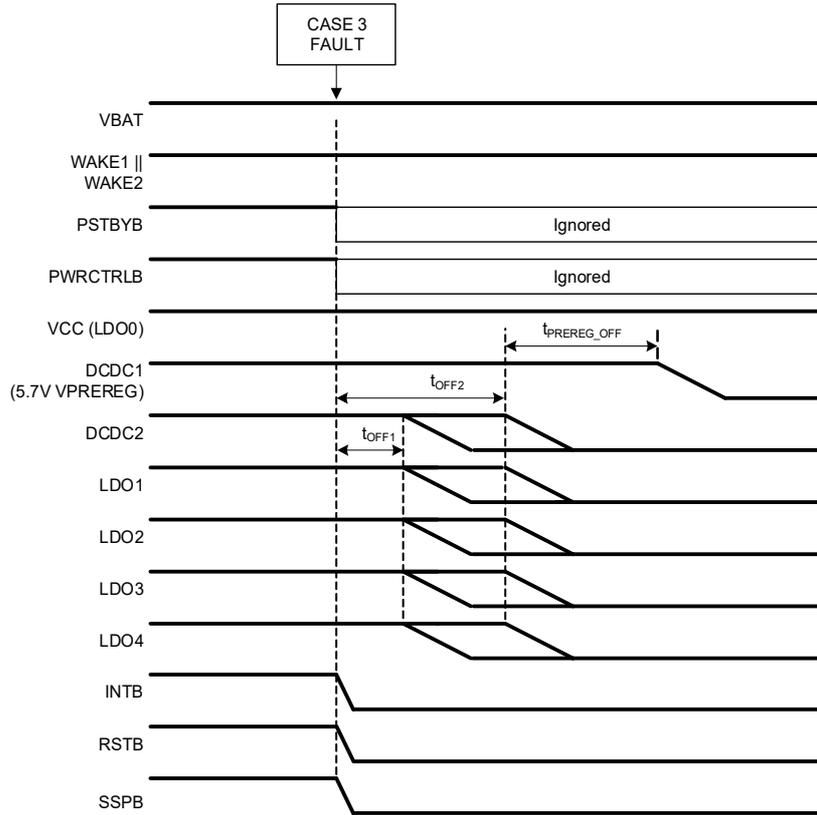

Figure 31. Case 3 Fault Timing
- Case 3 – Most severe fault reaction requiring PMIC shutdown. PMIC can only be be re-enabled using the three options described in the OPT_FAULTED_RELEASE register description. After faulted release, the PMIC restarts. The restart time is dependent on the longest OPT_WAIT_DISCHG setting. For example, if one of the regulators being restarted has an OPT_WAIT_DISCHG setting of 50ms, the PMIC does not attempt to restart until after this 50ms time period has expired. Figure 31 shows the timing for this case.